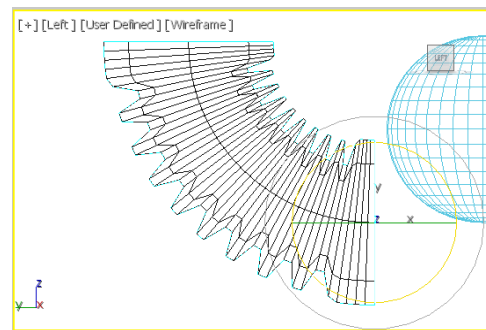

Figure 3-34 The spring support geometry rotated in the Left viewport
9. Right-click on the **Select and Rotate** tool; the **Rotate Transform Type-In** dialog box is displayed. In the **Offset: Screen** area, set **90** in the **Z** spinner and press ENTER; *spring support* is rotated, as shown in Figure 3-34. Now, close the **Rotate Transform Type-In** dialog box.